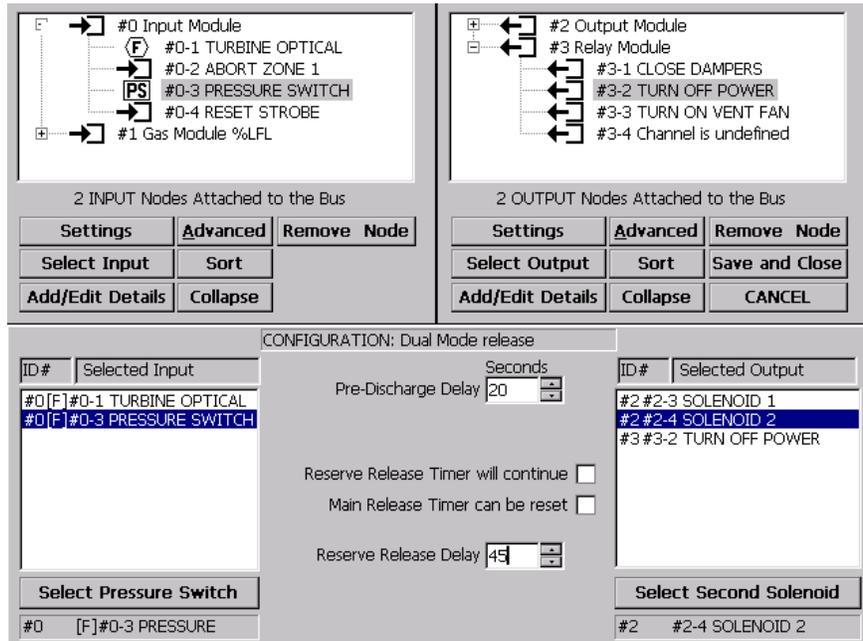

FIGURE 16.1 Input / output node mapping and selecting exceptions.
Figure 16.1 indicates one optical detector on channel 1 as well as a pressure switch (required) on channel 3 were selected for the two inputs.
Now highlight the pressure switch in the SELECTED INPUT screen then click on the SELECT PRESSURE SWITCH button. Notice in figure 16.1 the pressure switch is displayed below the SELECT PRESSURE SWITCH button. The pressure switch can also be selected from another node.
□ As indicated in figure 16.1, this example loaded relay node ID #3, channel 2 in the SELECT OUTPUT SCREEN. Any node channel(s) loaded into this screen will activate IMMEDIATELY upon expiration of the FIRST timer and are precluded from any timing issues. If the administrator does not want to complicate a configuration by adding another output device, a separate configuration can be made in the DIRECT CONNECTION with delay, section #13.